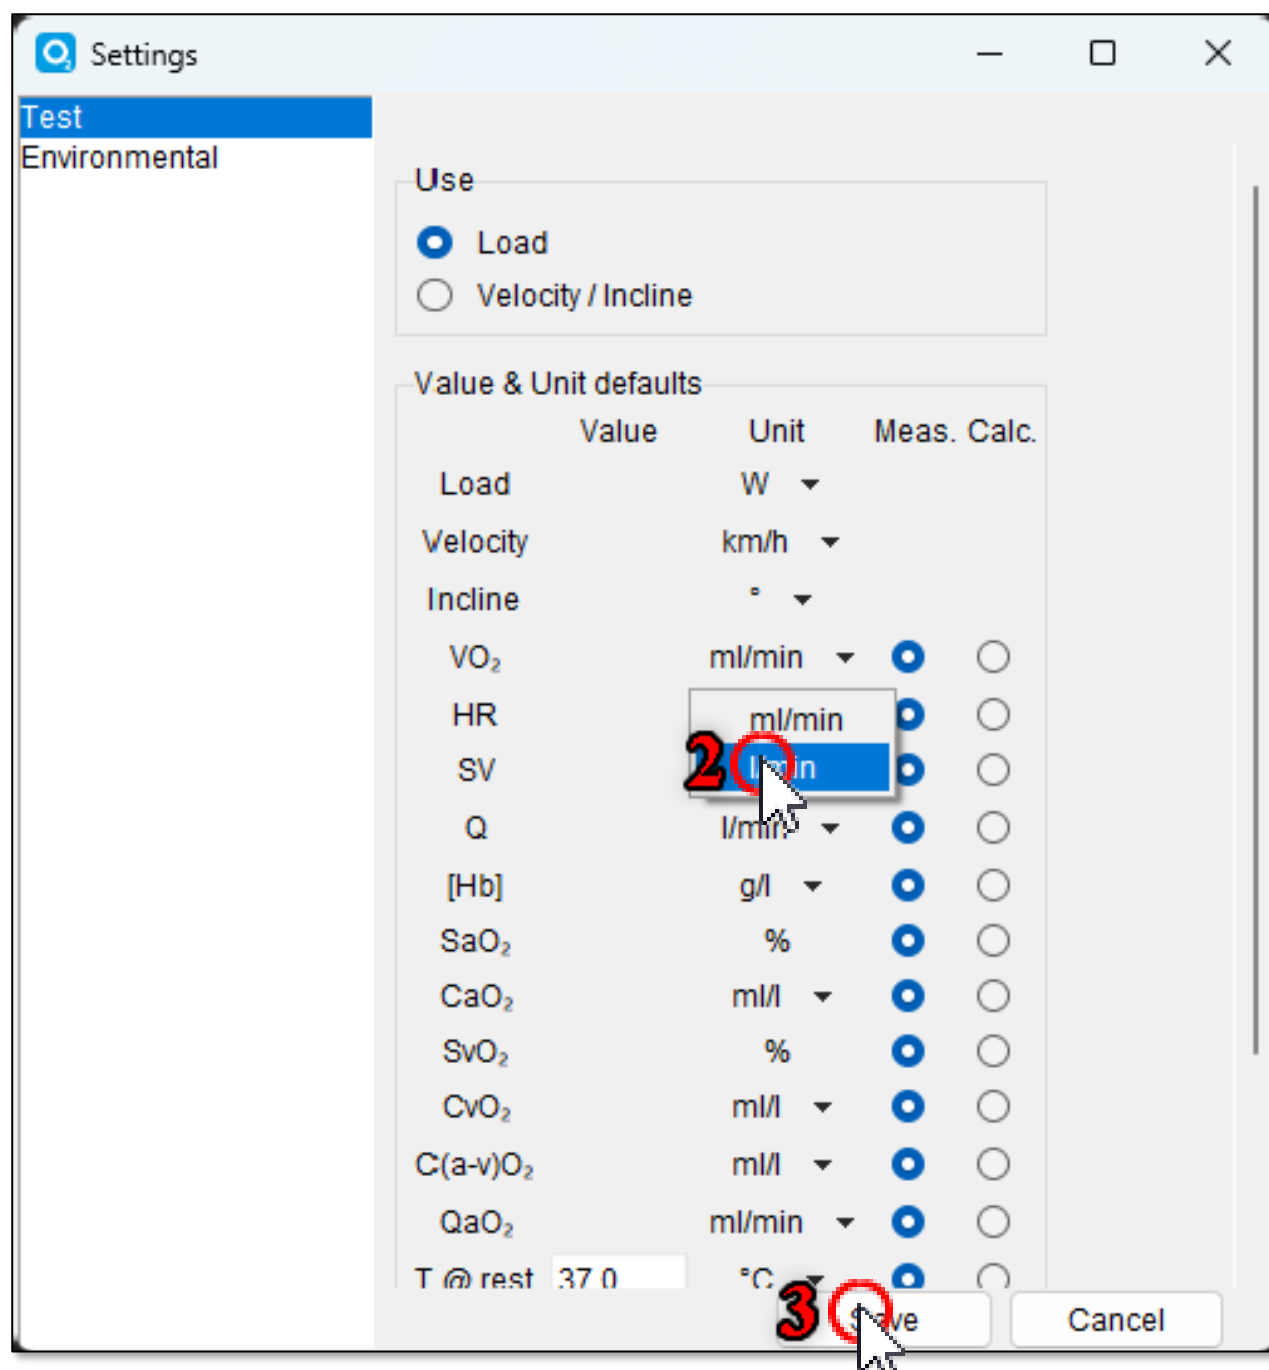

Figure 58
2. Change the incorrect unit by clicking the corresponding parameter's drop-down menu button (Figure 58).
3. Save changes by clicking the **"Save"** button (Figure 58).